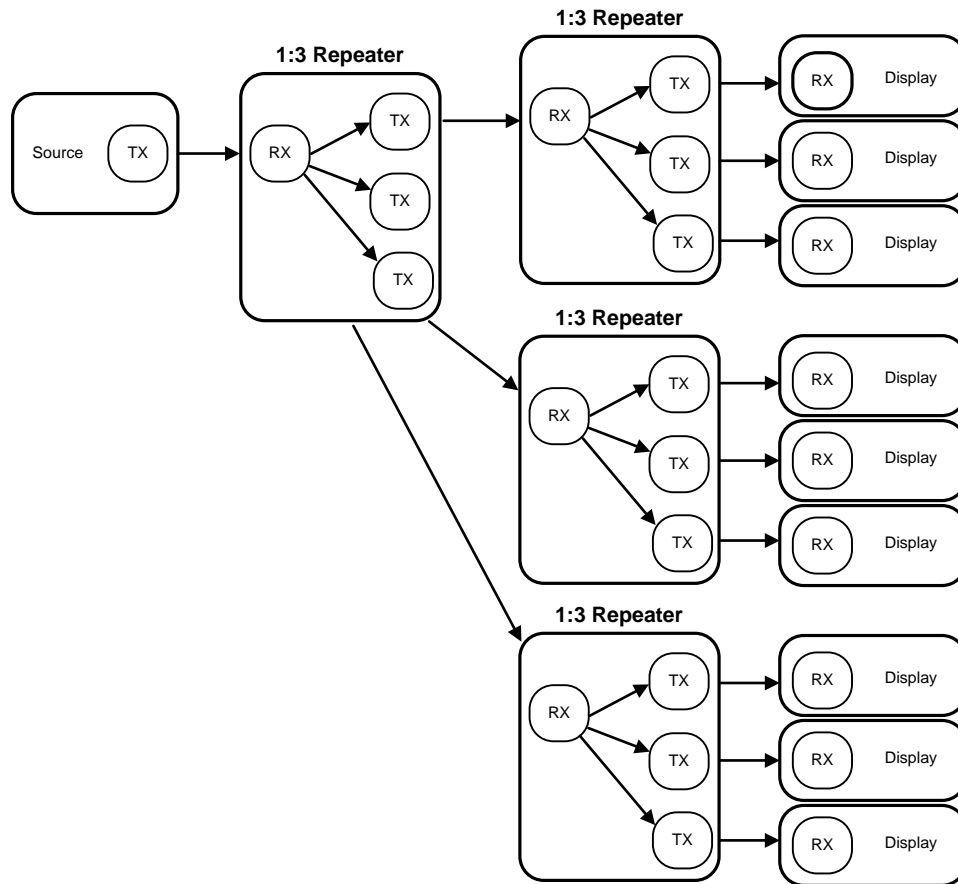

Figure 25. Maximum Repeater Application
In the repeater application, this document refers to the DS90UB947-Q1 Serializer or as the Transmitter (TX), and refers to the DS90UB948-Q1 as the Receiver (RX). Figure 25 shows the maximum configuration supported for Repeater implementations. Two levels of Repeaters are supported with a maximum of three Transmitters per Receiver.